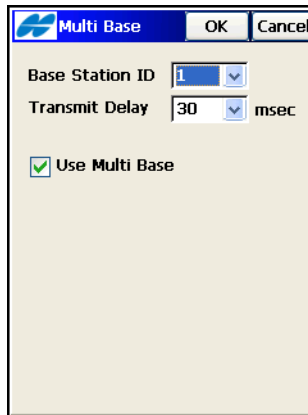

Figure 8-4. Multi Base
- *Multi Base* (for RTK survey type) – opens the **Multi Base** screen (Figure 8-4 on page 8-5) to set the multi base mode. This mode allows the base station to use a single frequency for transmitting data. Setting a transmission delay for each station prevents signals from colliding.
The **Multi Base** screen (Figure 8-4) sets parameters for Base Stations.